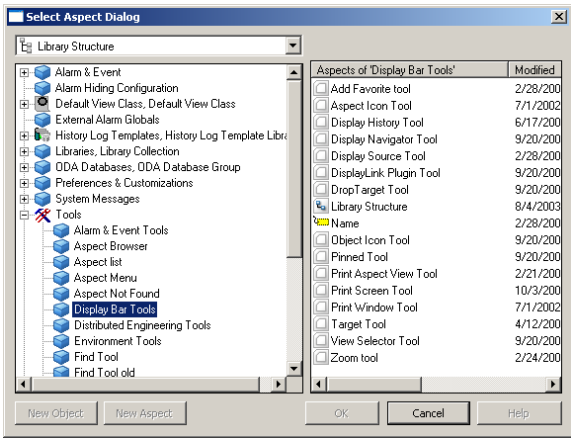

Figure 33. Add Display Bar Tools
- 5. Select the Display Bar Tools aspect and select the tool to add in the right-hand view. See Figure 33.